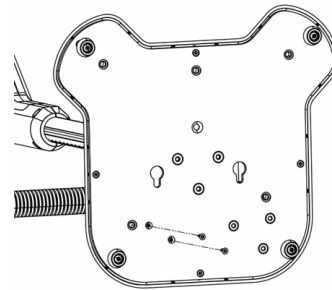

Figure 23. M3 Torx Screws on Base
- d. Again, lay the stand on its back to expose the bottom plate. Unscrew the two (2) M3 Torx screws as shown in **Figure 23** and remove the base corner mount bracket from inside the stand base.